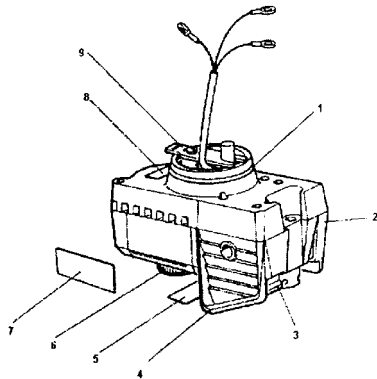

Figure 5-7 MF10-03-01 Regulator
The regulator sub-assembly (see figure 5-7) is provided with three red manual controls. On the right side, the inflation control plate (2) actuating a by-pass valve which inflates (when pressed) or deflates (when released) the harness. On the left side, the dilution plate assembly (4) composed of a "N - 100%" spring loaded rocker (3) which maintains a valve in open ("N" -normal oxygen) or closed (100% - oxygen) position.